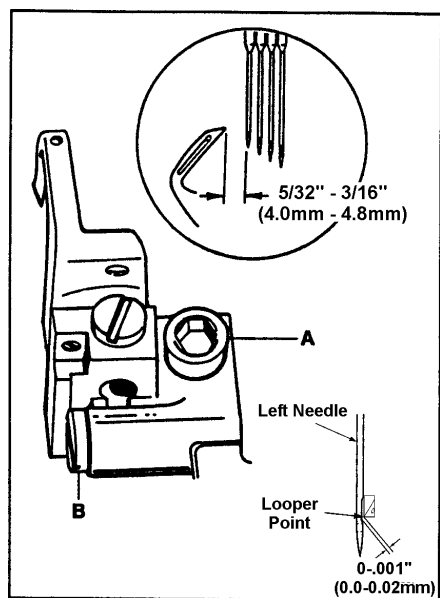

FIG. 15
Turn the handwheel in operating direction until the looper has traveled fully to the left. Loosen screw (A, Fig. 15) and move the looper holder to the right or left until the distance from the point of the looper to the center of the first (left) needle is $5/32'' - 3/16''$ (4.0mm - 4.8mm). Set looper point $.000'' - .001''$ (0.0-0.02mm) to first needle. Turn screw (B) until the proper dimension is achieved. Tighten screw (A). Looper point should not deflect or pinch needles.